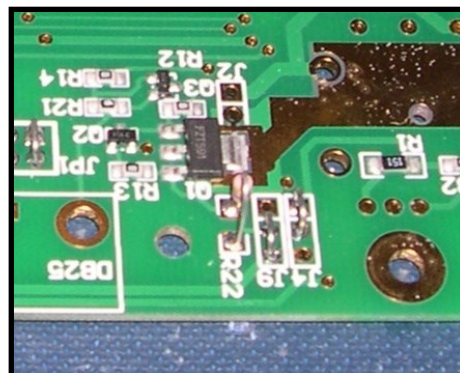

Figure 5f. J9 in the 12V position.
- **NOTE :** The Figure 5f shows J9 in the 12V position but for best performance you should put it in the 5V position just like J4.